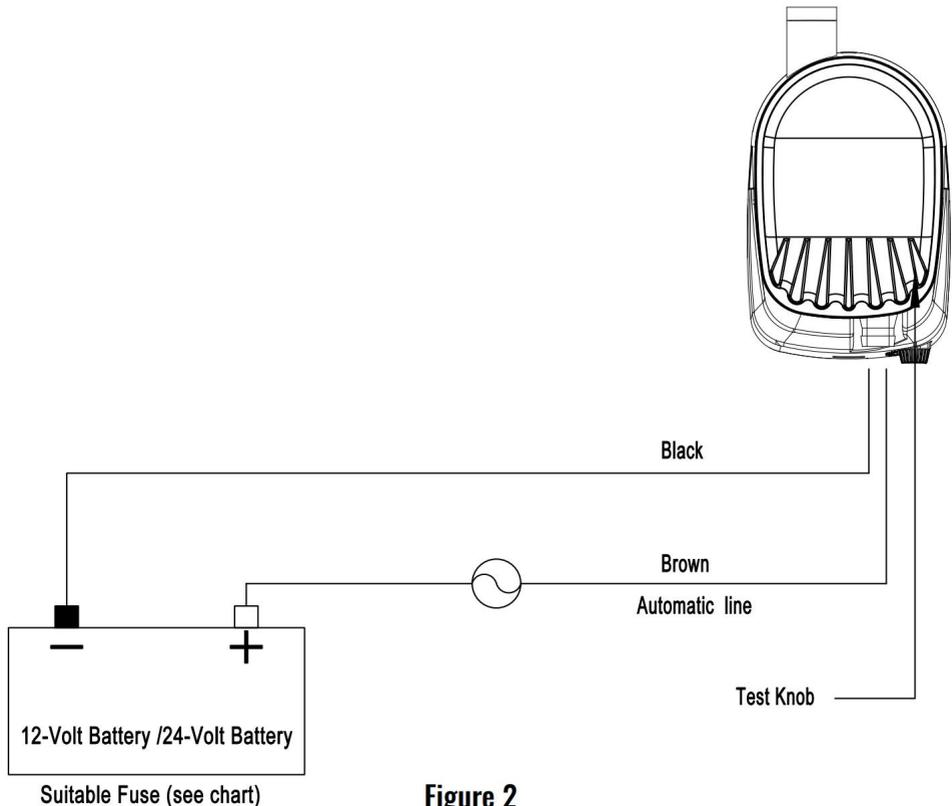

Figure 2
1. Using the full length of wire provided (and additional wire if necessary), connect wires to the pump as shown in the diagram.(See Figure 2.)